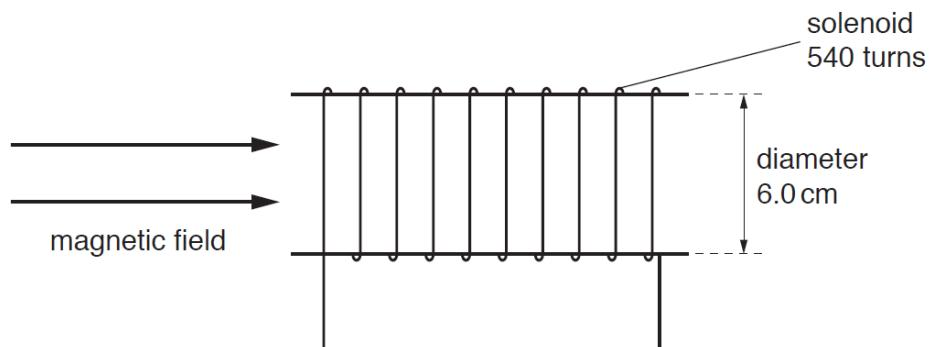

Fig. 9.1
- (b) A solenoid of diameter 6.0 cm and 540 turns is placed in a uniform magnetic field as shown in Fig. 9.1.